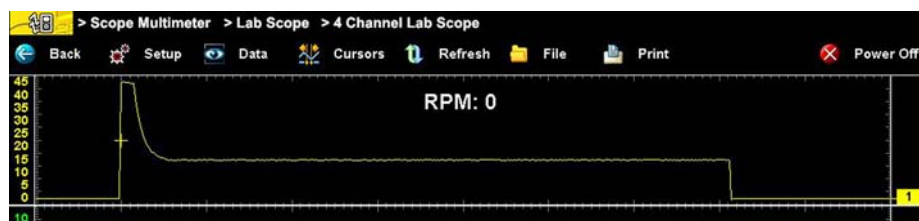

Figure 7-18 Sample Show RPM selected
- **Show RPM**—adds an engine speed field at the top of the screen (Figure 7-18).